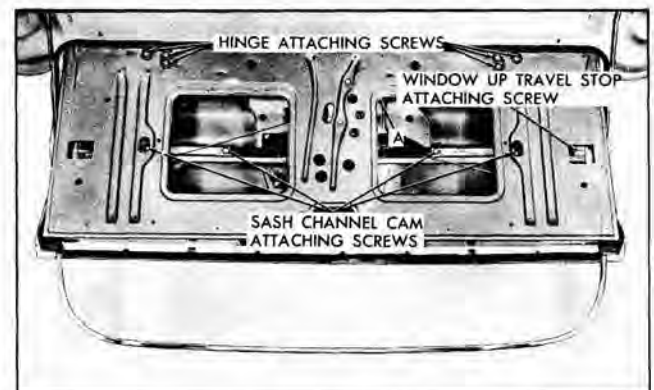

Fig. 5-13 Tail Gate Hardware
2. Detach tail gate inner panel water deflector sufficiently to gain access to window lower sash channel cam attaching bolts (Fig. 5-13). Remove tail gate inner panel access hole covers.
3. Carefully operate window upward until the window lower sash right and left cam attaching bolts are accessible through access holes (Fig. 5-13).
4. Remove window lower sash channel right and left cam attaching bolts (Fig. 5-13) and disengage cams from window lower sash channel.
NOTE: To open the tail gate on styles with electric windows when window assembly is removed, depress tail gate lock remote control locking lever through access hole at location "A", (Fig. 5-13), and at the same time operate the tail gate remote control inside handle.